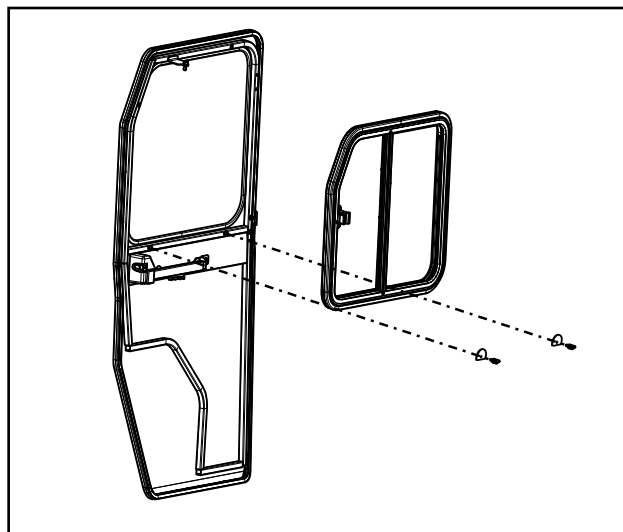

Fig. 14.1 Removable sliding windows
14.1 The doors are packaged with the removable sliding windows installed. Per figure 14.1, remove the sliding windows to ease assembly. To do so, loosen the thumb screw at the bottom of the sliding window.